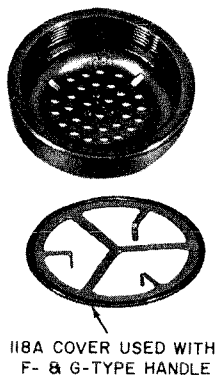

Fig. 6—118A Transmitter Cover
- (a) The 118A cover is intended for use on F- and G-type handsets where subfreezing temperatures occur (Fig. 6).